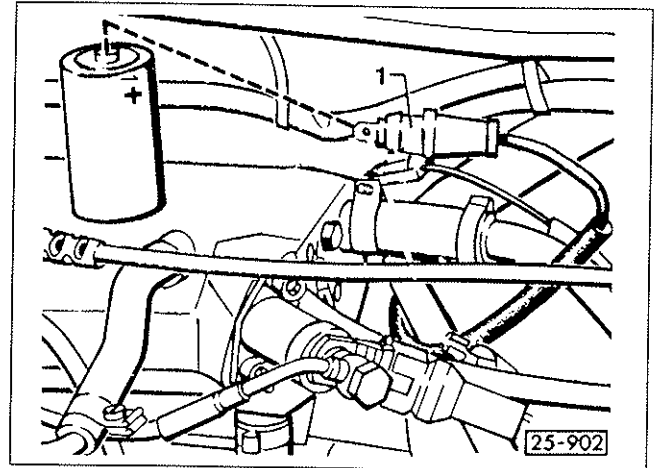

Fig. 5-21. When you apply voltage to the disconnected lambda sensor wire (1), control unit should reduce lambda valve duty cycle to fully lean the mixture.
**Lean Stop.** This test checks control-unit reaction to a rich mixture. Instead of grounding the lambda-sensor wire, touch it to the positive terminal of a 2 volt dry cell as shown in Fig. 5-21. Ground the negative terminal of the battery to the engine. This